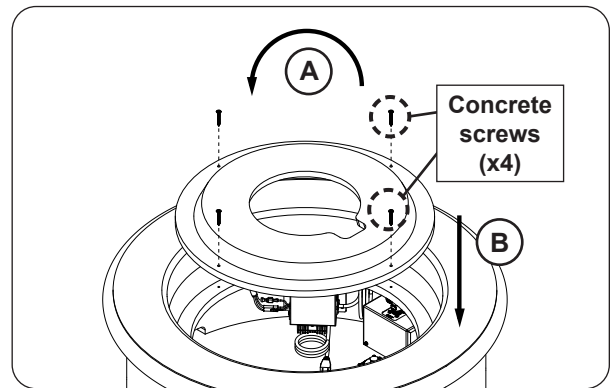

Fig. 29-1 Flip and install refractory panel
5. Flip the refractory panel and align the pilot holes. Re-install the 4 concrete screws (see Fig. 29-1).